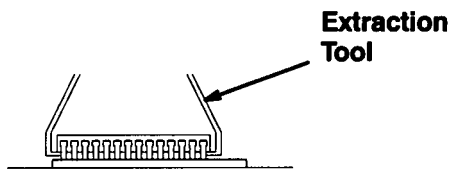

Fig 6
4. Use an I.C. extraction tool to remove the old software chip. Pull the chip directly up. See Fig 6.